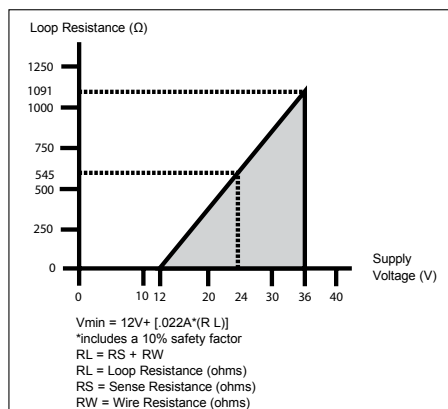

Figure 5 Load Limitations
The voltage required for a 4...20 mA output is dependent on the loop resistance of the circuit. Refer to Figure 5 showing the minimum supply voltage (V_{min}) required for a given Loop Resistance (RL).